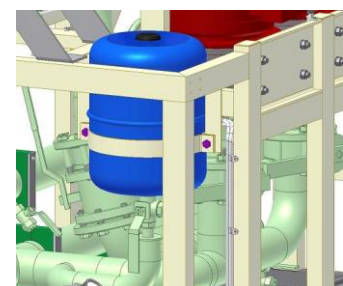

Figure 6.2-3
3. Remove the attachment clamp (around the expansion vessel, Figure 6.2-3).